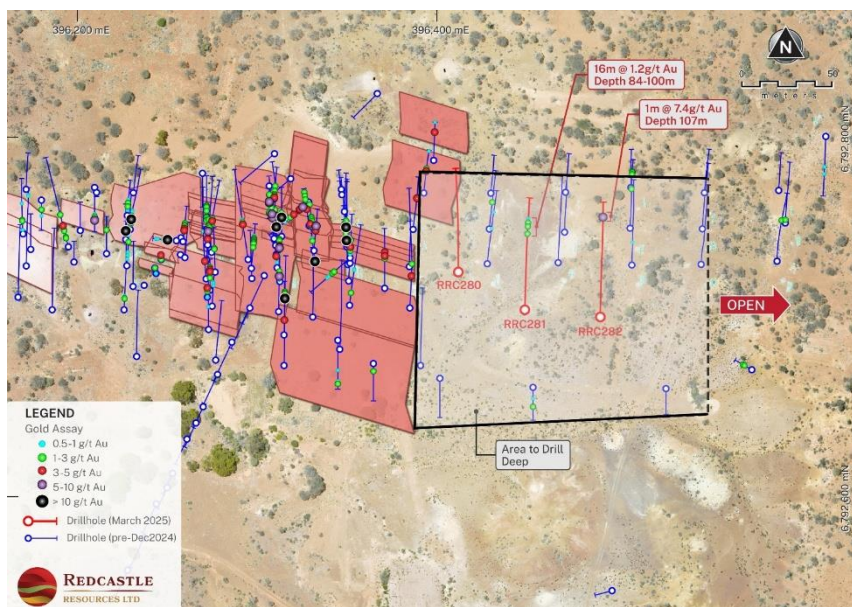

Figure 4: RR plan
Three Reverse Circulation (RC) holes for 378m were completed in March 2025 as part of the Final Phase of the 2025 RC Drilling Program (Figure 4).